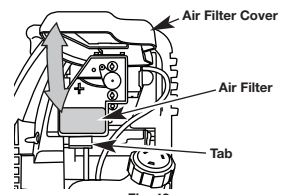

Fig. 42
- Open the air filter cover. Push the tab on the under side of the cover inward. Then pull the air filter cover out and up. (Fig. 42).
- Swing the cover down until the tab on the air filter backplate snaps into place in the slot on the air filter cover (Fig. 42).